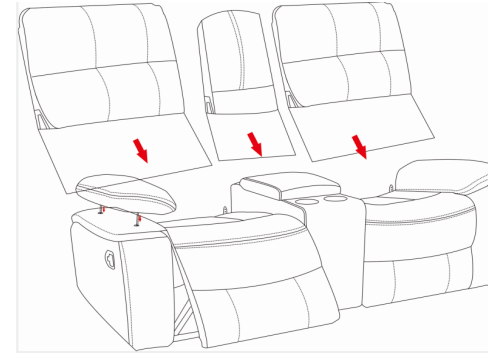

fig.3
See fig. 3
- 5.Insert the armrest pieces into the armrest ,See fig. 3